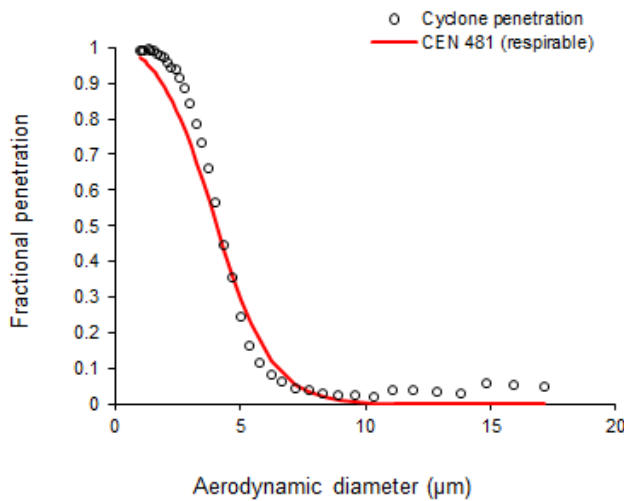

Figure 19
*The results, expressed in terms of D50, are shown in Table 9. The penetration curve and bias map for the cyclone sampler are shown in Figures 19 and 20 respectively. The respirable convention is also shown for comparison.*